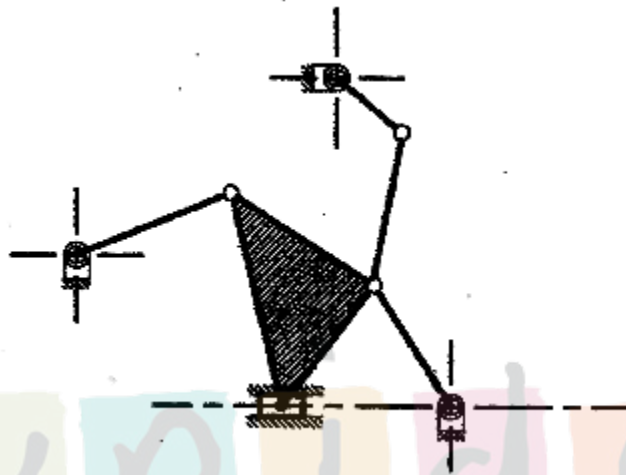

Fig. 2
- (b) Fig. 2 shows schematic of a mechanism. Redraw the sketch on the answer-book. Find out the total number of kinematic links and number of kinematic pairs. Hence find out the degrees of freedom for the mechanism. [4]